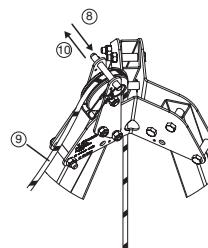

Fig. 10
8. Remove the ball screw located above the return pulley at the top of the tracpole tripod (Fig. 10, 8).
9. Pass the derope™ halyard around the return pulley (Fig. 10, 9).
10. Replace the ball screw in order to prevent the halyard from escaping the return pulley (Fig. 10, 10).